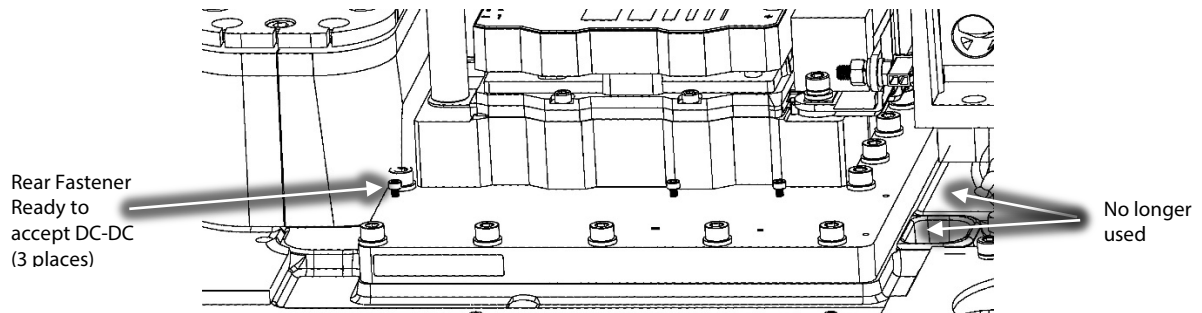

Figure 19 – Rear Fastener Installation
1. Install the new rear fasteners that secure the DC-DC Converter to the Inverter Heat Sink Plate. Do not tighten these fasteners; leave enough space under the fasteners to allow the DC-DC Converter to slide under the fasteners. Refer to Figure 19 (Rear Fastener Installation).